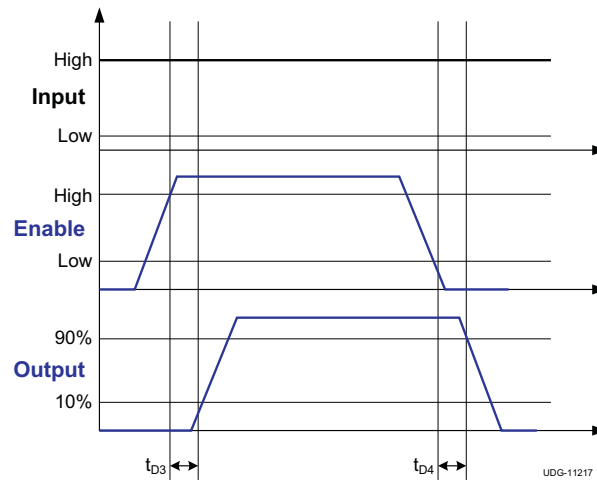
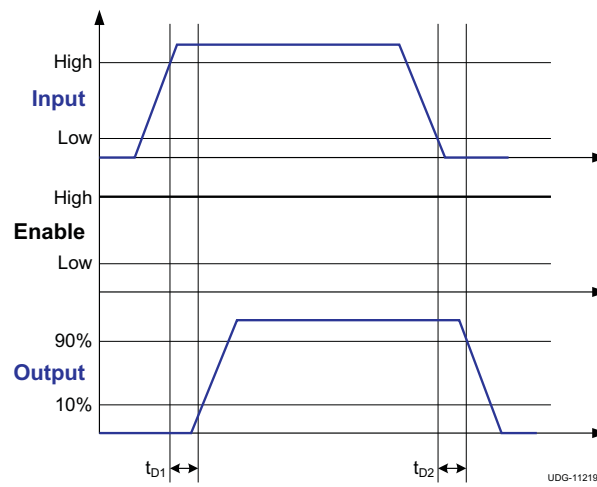

**Figure 1. Enable Function
**Figure 2. Non-Inverting Input-Driver Operation**
(1) See the timing diagrams in Figure 1 and Figure 2